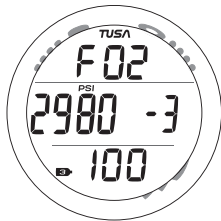

Fig. 94 - GAS/TRT 2
**Gas/TRT 3 Switch Preview**, information includes (Fig. 94) -